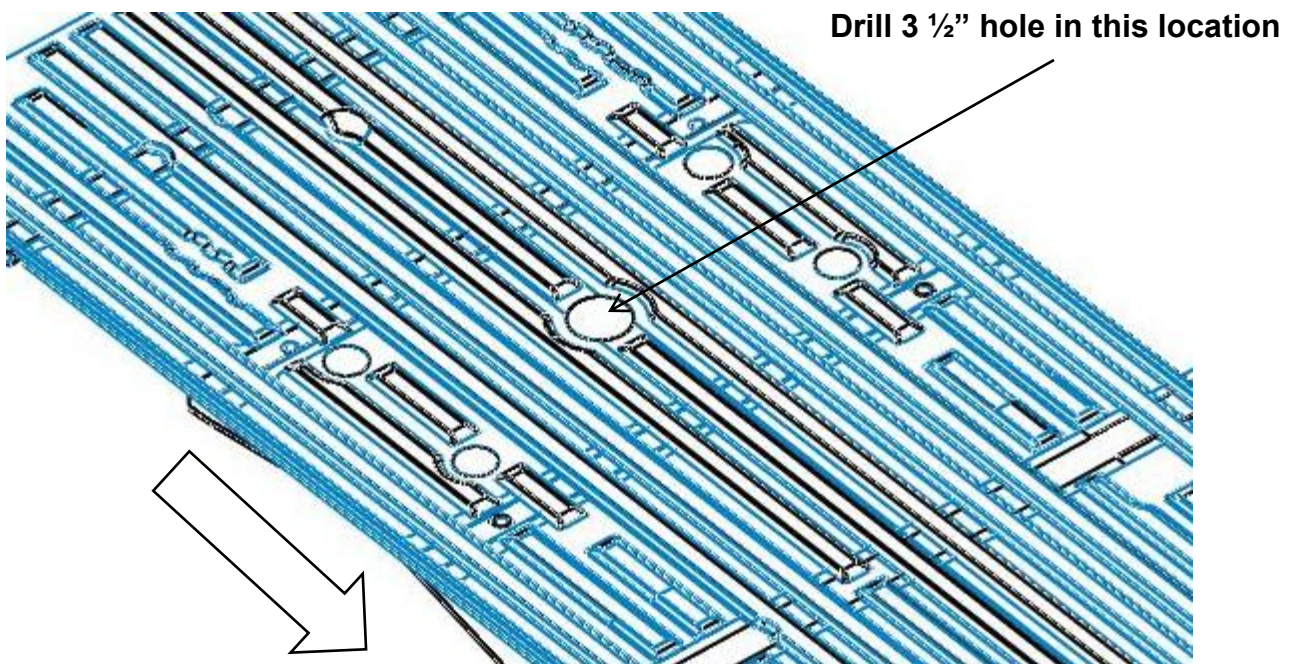

Fig 7
2. Locate the "dimple" in the depression in the middle of the truck bed. Using the 3 1/2" hole saw, cut a hole in the location shown in Figure 7 below. If there are no dimples in your bed, measure from the rear of the bed forward 46-3/8". Find the center of the bed by measuring between the fender wells or a weld seam that is visible on both sides of the bed. Drill a 3-1/2" hole at this location.
5. Once the *REESE™ Elite Series* Gooseneck Hitch has been loosely assembled, locate the collar in the 3 1/2" hole that was cut. See Figure 7.